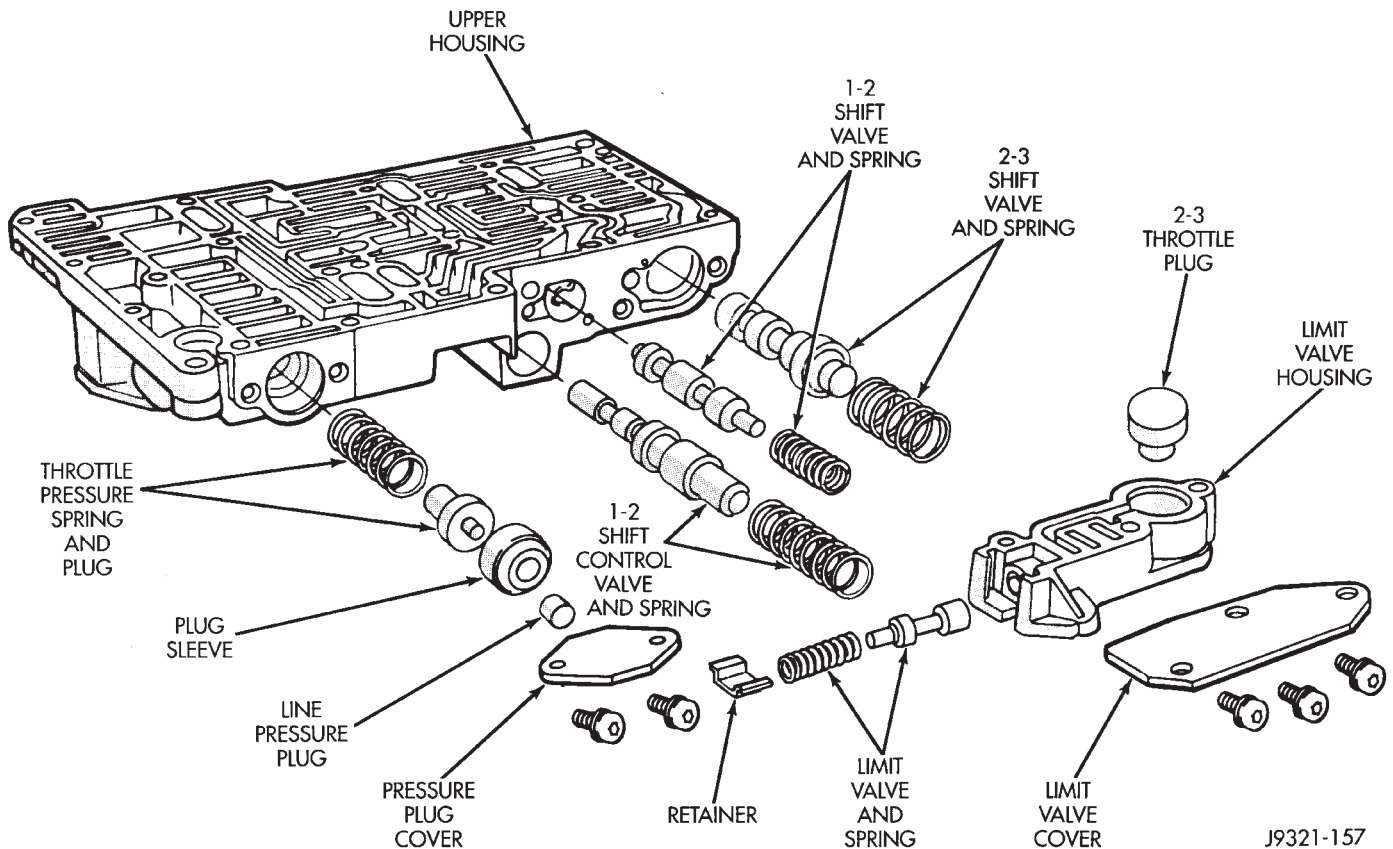

Fig. 75 Upper Housing Shift Valve And Pressure Plug Locations
- (7) Turn upper housing around and remove limit valve and shift valve covers (Fig. 75).
(8) Remove limit valve housing. Then remove retainer, spring, limit valve, and 2-3 throttle plug from limit valve housing (Fig. 75).
(9) Remove 1-2 shift control valve and spring (Fig. 75).
(10) Remove 1-2 shift valve and spring (Fig. 75).
(11) Remove 2-3 shift valve and spring from valve body (Fig. 75).
(12) Remove pressure plug cover (Fig. 75).
(13) Remove line pressure plug, sleeve, throttle pressure plug and spring (Fig. 75).